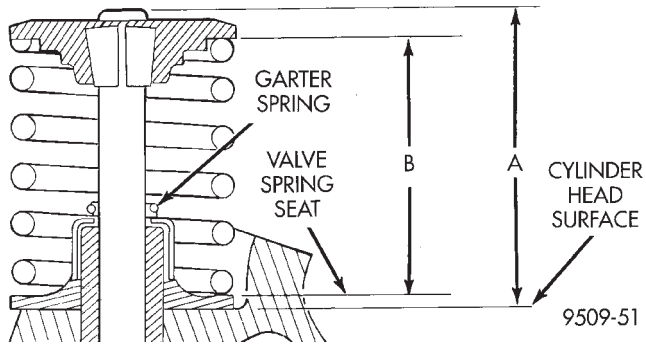

Fig. 49 Spring Installed Height and Valve Tip to Spring Seat Dimensions
(8) Check valve tip to spring seat dimensions A after grinding the valve seats or faces. Grind valve tip to 43.51 - 44.57 mm (1.71 - 1.75 in.) for exhaust valve and 45.01 - 46.07 mm (1.77 - 1.81 in.) for intake valve over spring seat when installed in the head (Fig. 49). The valve tip chamfer may need to be reground to prevent seal damage when the valve is installed.
(4) Check the valve spring installed height B after refacing the valve and seat (Fig. 49). Make sure measurements are taken from top of spring seat to the bottom surface of spring retainer. If height is greater than 40.18 mm (1.58 in.), install a 0.762 mm (0.030 in.) spacer under the valve spring seat to bring spring height back within specification.
(5) Install rocker arm shafts as previously described in this section.
(6) Checking dry lash. Dry lash is the amount of clearance that exists between the base circle of an installed cam and the rocker arm roller when the adjuster is drained of oil and completely collapsed. Specified dry lash is 1.17 mm (0.046 in.) for intake and 1.28 mm (0.050 in.) for exhaust. After performing dry lash check, refill adjuster with oil and allow 10 minutes for adjuster/s to bleed down before rotating cam.